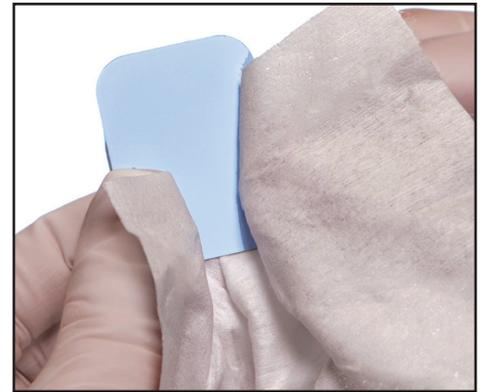

Figure 12-3. PSP Cleaning
1. As shown by Figure 12-3, gently wipe the PSP Cleaning Wipe over the dry Plate surface. Wipe back and forth and then in a circular motion.